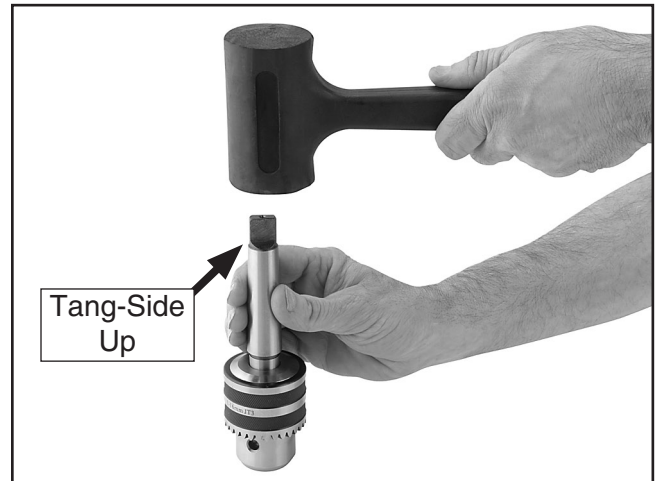

Figure 15. Seating arbor into chuck.
3. Place the drill chuck face down on a workbench. The arbor has a short taper and a long taper. Place the short taper into the socket in the back of the drill chuck and tap it with a rubber or wooden mallet, as shown in **Figure 15**. If the chuck fails to remain secure on the arbor, repeat **Steps 1 & 2**.
4. Slide the arbor into the spindle while slowly rotating the drill chuck. The flattened end of the arbor (the tang, shown in **Figure 15**) will engage with a rectangular slot inside the spindle.